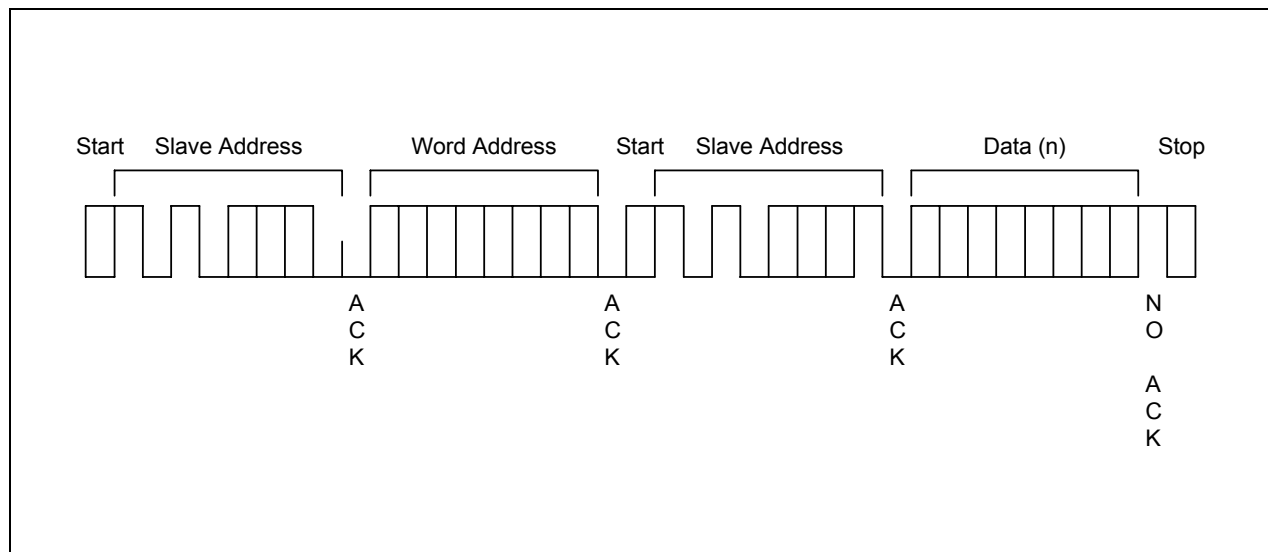

Figure 2-14. Random Address Byte Read Operation
5. In response, the KS24C040/041/080/081 stops transmitting data and reverts to its stand-by mode (see Figure 2-14).